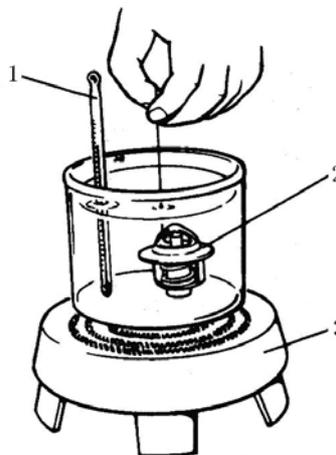

FIG.7-13
3) Check the thermostatic movement of the wax pellet as follows:(FIG.7-13)。